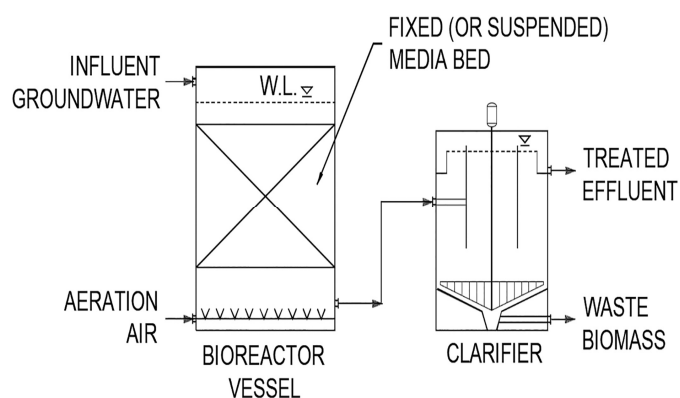

Figure 5. Simplified schematic of a submerged fixed-film bioreactor (i.e., fixed media bed) and a moving bed bioreactor (i.e., suspended media bed).
- **Submerged media:** This class of bioreactor employs a biomass support medium that is completely submerged within the reactor vessel. Excess biomass is typically controlled with aeration (e.g., coarse or fine bubble aeration provides a scouring action to promote sloughing of the thickened biofilm) or through the mechanical shearing of the biomass from the medium. The most common submerged media bioreactors are the submerged fixed-film bioreactor (Figure 5), the moving bed bioreactor (similar configuration to the submerged fixed-film bioreactor with the exception that the media consists of fairly small wheels, rings, or similar media that are buoyant and freely suspended within the vessel rather than fixed in place), the fluidized bed bioreactor (Figure 6), and biological GAC. BioGAC systems are conventional GAC systems where biomass accumulates in the lead vessel, by design, to facilitate biological treatment and extend the life of the carbon beds. BioGAC is applicable to low concentration COCs (low biomass yield is important to minimize the number of backwash cycles required to control excess biomass and fouling of the GAC bed).